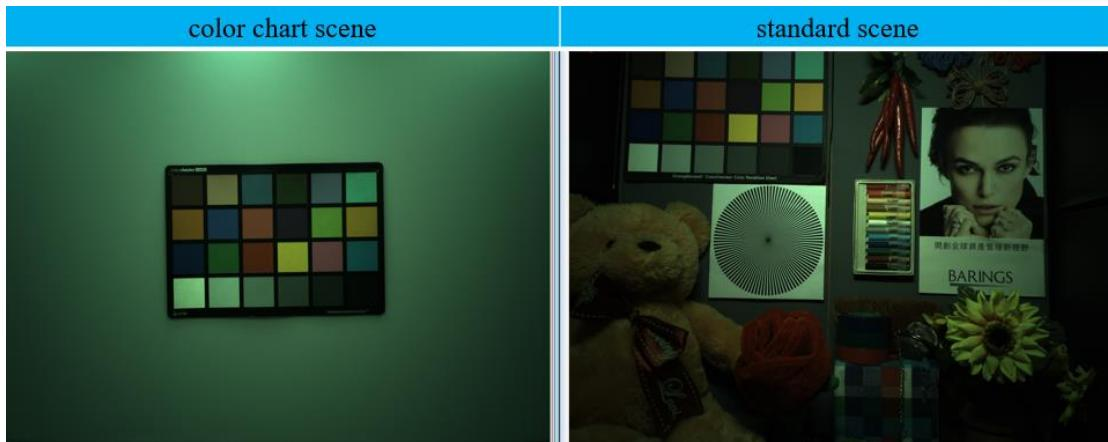

Fig. 5-40 Example of two kind of scenes.
2. Prepare 1 low texture scene such as color chart scene and 1 high texture scene such as standard scene for different gains. See example in Fig. 5-40 for two kind of scenes.